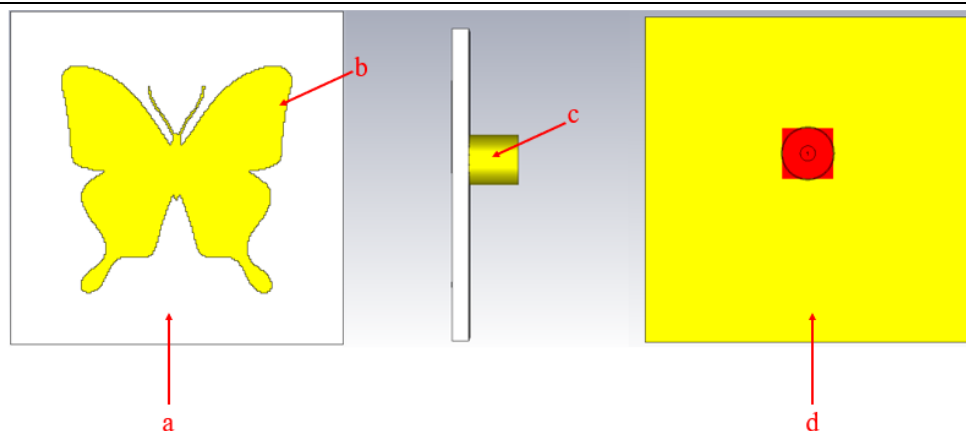

Figure 12. Antenna built in CST. The different components of the designed antenna are shown here.
Step 6: Once the image is complete, the pixels will be automatically joined to reconstruct the figure. The following components are identifiable in Figure 12.